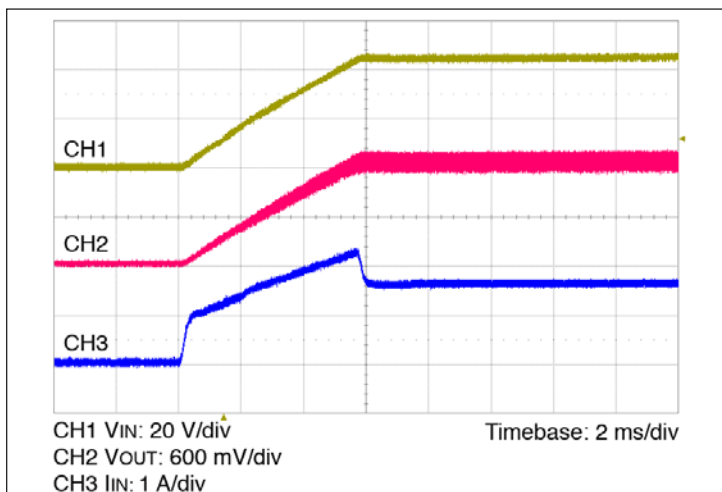

Figure 13 — Start up from application of  $V_{IN}$ ; VC pre-applied  $C_{OUT} = 0 \mu\text{F}$
- **Normal Operation (VC applied prior to VIN):** In this case the controller is active prior to ramping the input. When the input voltage is applied, the VTM output voltage will track the input (See Figure 13). The inrush current is determined by the input voltage rate of rise and output capacitance. If the VC voltage is removed prior to the input reaching 26 V, the VTM module may shut down.